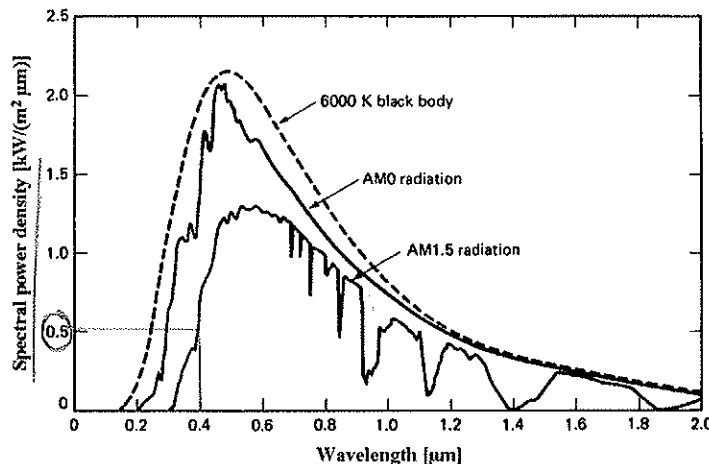

Figure 1
Only photons of appropriate energy can be absorbed and generate the electron-hole pairs in the semiconductor material. It is important to know the spectral distribution of the solar radiation when we design solar cells. Figure 1 shows different spectra referring to the black-body radiation at 6000K, AM0 radiation and the AM1.5 radiation.
- b) In Figure 1, the spectrum corresponding to AM1.5 shows general attenuation and some gaps, compared to AM0 radiation. Explain the reason.
- c) In the case of AM1.5 radiation, what is the photon flux density at the wavelength of $0.4 \mu\text{m}$. Use Figure 1.